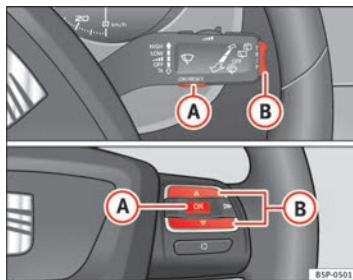

Fig. 39 Rocker buttons A and B. Steering wheel controls.
- When the ignition is on, briefly press button **A** on the windscreen wiper lever to change from one memory to another or press button **A** on the steering wheel controls \Rightarrow page 63, fig. 39.